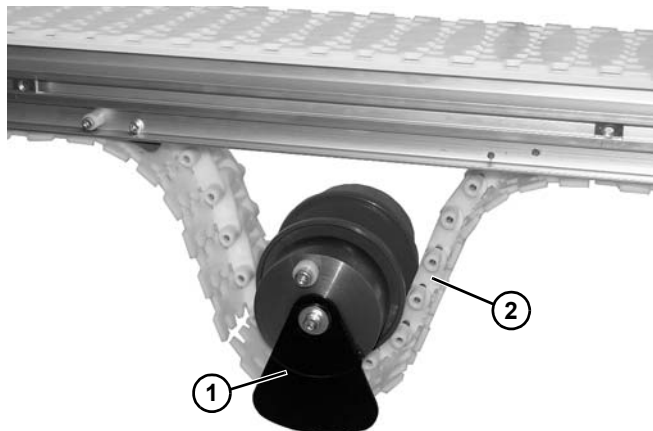

Figure 150
5. Remove idler pulley assembly (**Figure 150, item 1**) from belt (**Figure 150, item 2**).